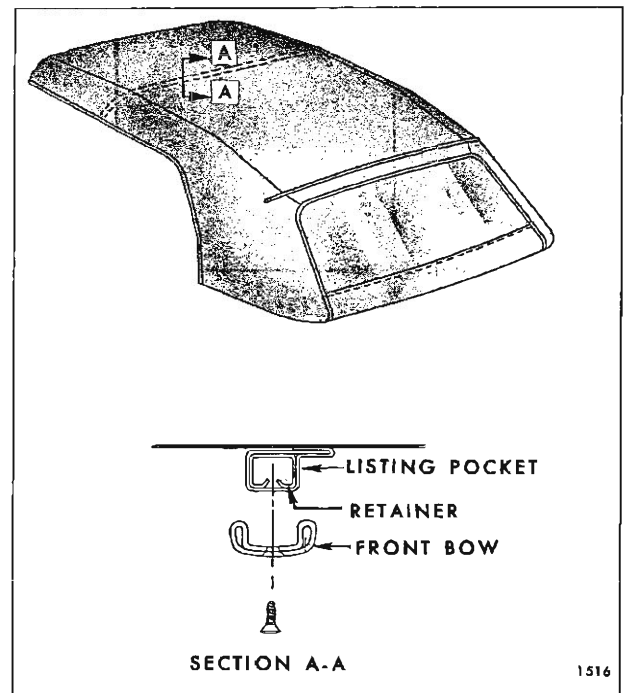

Fig. 13-26—Listing Pocket Retainer
12. Insert and center retainer in top cover listing pocket at front roof bow. Position retainer on front bow and install attaching screws (Fig. 13-26).
8. At underside of front bow, (Fig. 13-26) remove screws securing listing pocket retainer to front bow. Disengage retainer from bow and remove retainer from listing pocket. Note location of screws before removal.
- Insert and center retainer in top cover listing pocket at front roof bow. Position retainer on front bow and install attaching screws (Fig. 13-26).